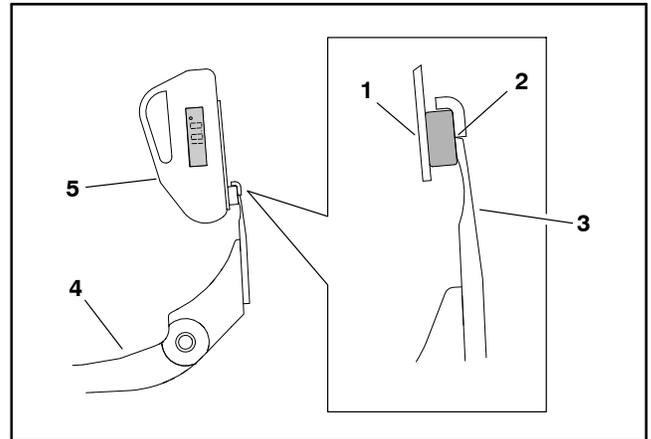

Figure 10
3. Remove the angle indicator and place the angle-indicator mount on the edge of the bedknife so the face of the magnet is flat against the top of the bedknife (Fig. 10).
4. Place the angle indicator on the mount with the digital display facing you as shown (Fig. 10). The angle displayed on the indicator is the current bedknife top angle.